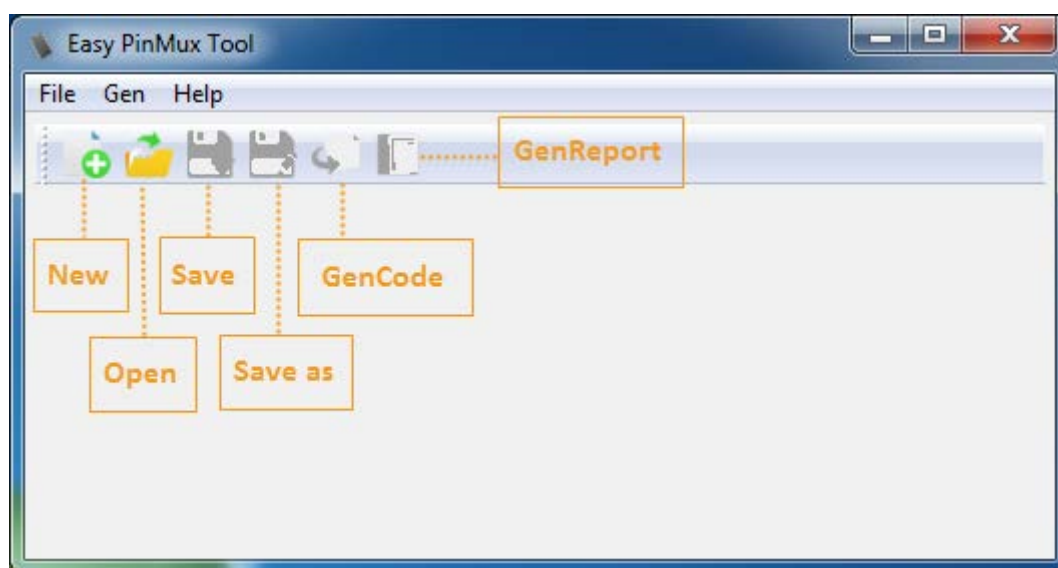
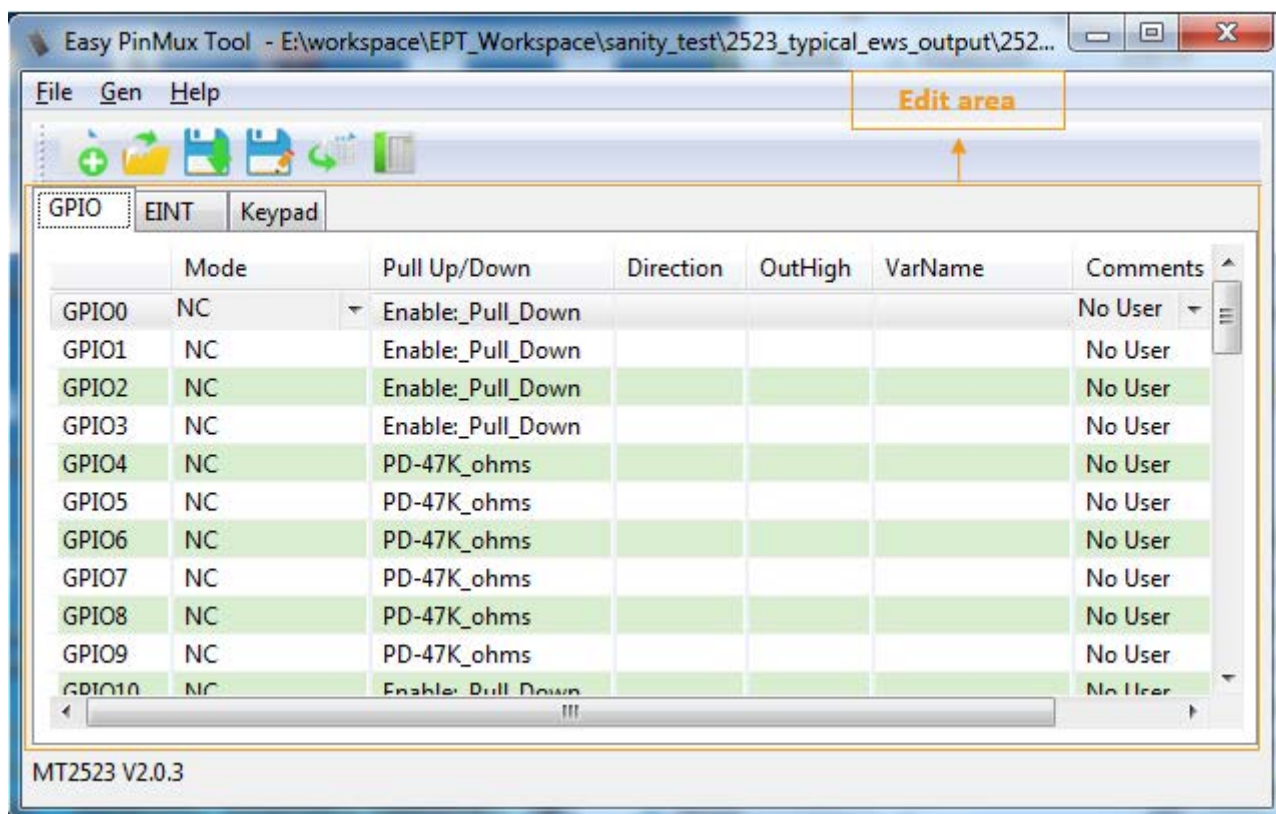

Figure 1. Main UI of the EPT with an empty workspace
Figure 2. Main UI of the EPT with a workspace
- 3) In **Gen** menu click **GenCode** to generate a source code of the driver stored under \output\25x3(768x) folder of the tool. The main GUI is shown in Figure 1 and Figure 2.
Open the **GPIO** page by open or creating a workspace on the main UI, as shown in Figure 2. It is used to set the GPIO parameters. The GUI enables setting up the **Mode**, **Pull up/down**, **Direction**, **OutHigh**, variable name **VarName** and **User Information** for the GPIO pins.